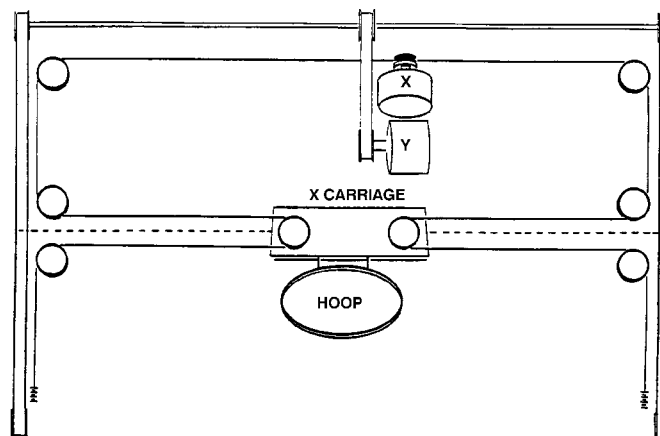

Figure 2
4. Locate the X Motor (See Figure 2) and trace the path of the Aircraft Cable from the Motor to each end. Take note of the position of each of the pulleys that the Cable passes around.